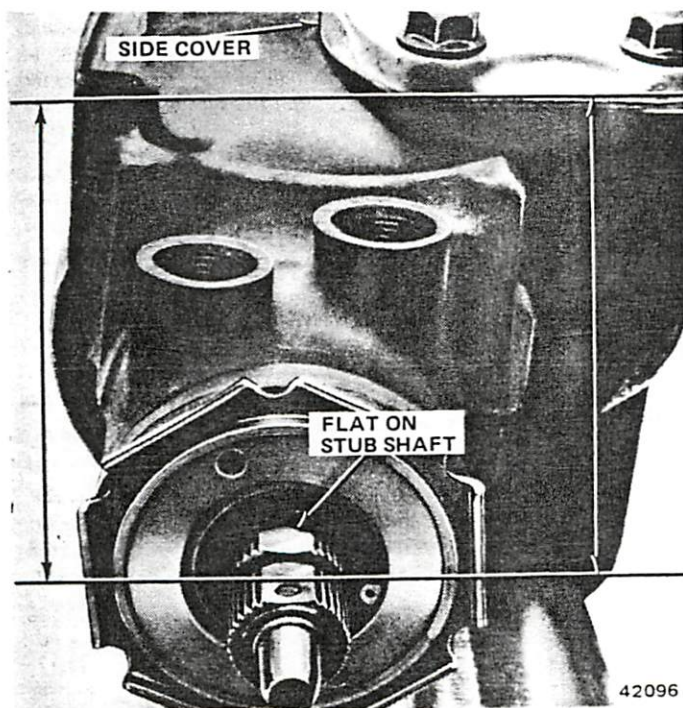

Fig. 2L-43 Stub Shaft Position with Gear Centered
(2) Rotate stub shaft from stop-to-stop and count total number of turns.
(3) Starting from either stop, turn stub shaft back 1/2 total number of turns. This is gear center.
**NOTE:** When the gear is centered, the flat on the stub shaft should face upward and be parallel with the side cover (fig. 2L-43). In addition, the master spline on the pitman shaft should be in line with the adjuster screw (fig. 2L-44).
(4) Install 50 inch-pound (6 N•m) torque wrench and deep socket on stub shaft and place wrench in vertical position to take reading (fig. 2L-45).